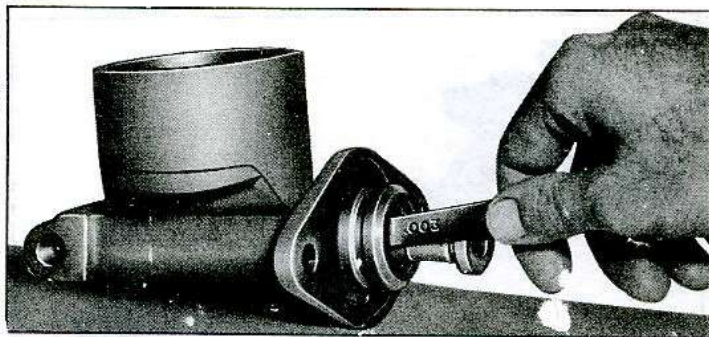

Fig. 23—Checking Main Cylinder Piston Fit
4. Check piston fit in cylinder bore (fig. 23). The clearance between piston and wall of cylinder should be 0.001-0.005 inch.